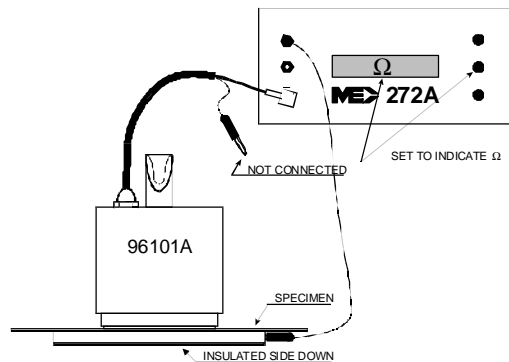

Figure 5
The Connections for unguarded measurements are given in Figure 5. Factors for converting meter readings (in Ω) directly to volume resistivity (unit $\Omega.cm$) are presented in Table 1. Above information is presented as an overview of some of the complications involved in the use of the concentric or guarded ring type electrode. Either of the standards should be consulted for further details.
- 1) Arrange test setup as in Figure 5.